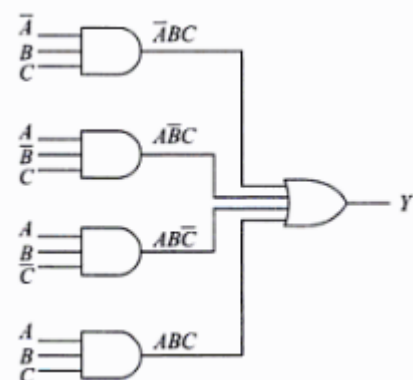

Figure 3.5: AND OR solution
- We can draw the logic circuit for Y (Figure: 3.5).